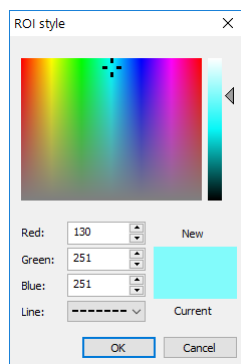

Figure 367 – ROIs style dialog
3. Select the desired color and line style in the dialog (see Figure 367).